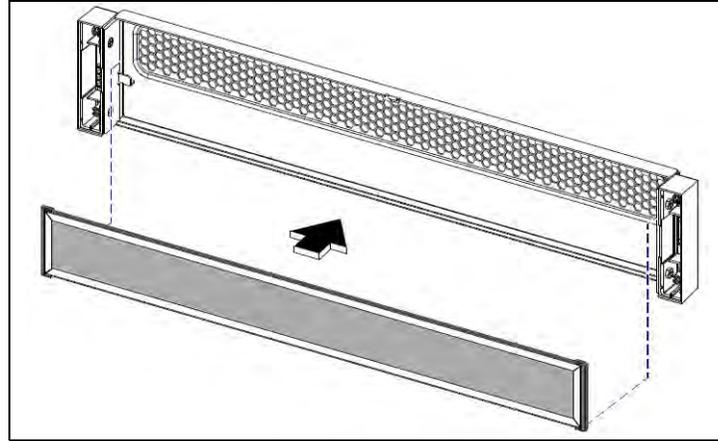

Figure 5.43 - Air Filter Replacement
2. On the back side of the bezel, insert the air filter with the foam facing toward the bezel's vents. Align the bottom corners of the air filter per the thrust lines as (Figure 5.43).